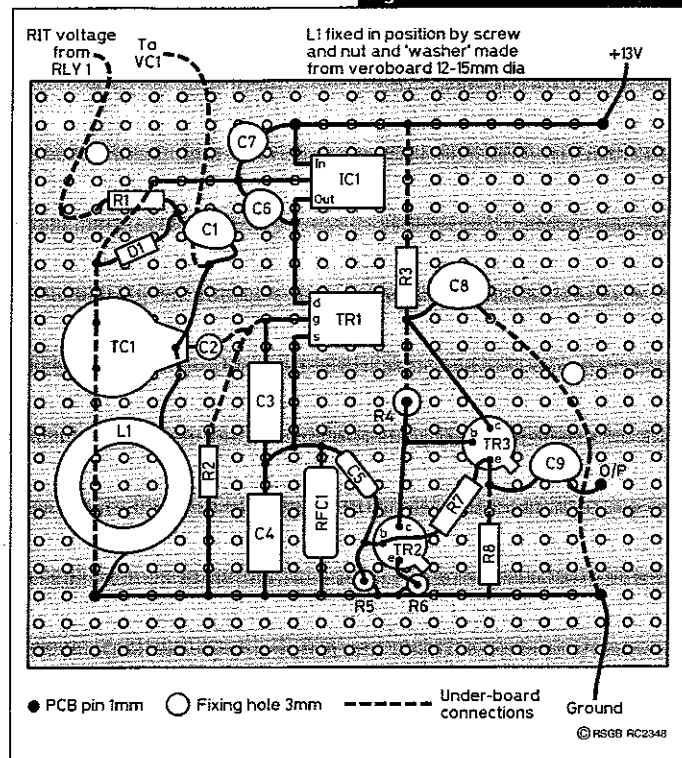

Fig 3: The VFO is built on matrix board.
It was decided *not* to build the VFO 'dead bug' fashion for two reasons, (1) the rigidity (very important in a VFO) wouldn't be as good as it could be, and (2) thermal stability. With the frequency determining components in contact with the chassis, they would be more prone to sudden changes in temperature than if they were mounted independently. As printed circuits had been ruled out, the VFO was built on a 2 1/4in x 2 1/2in piece of 0.1in matrix board. This in turn was mounted using two 12mm M2.5 screws, with extra nuts as spacers to keep the board clear of the chassis. See Fig 3 for the layout of the VFO board.